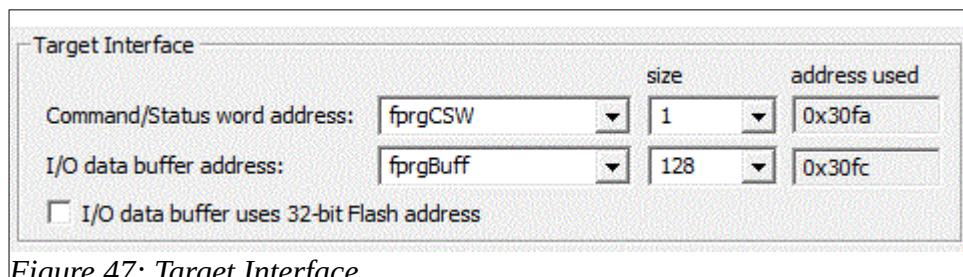
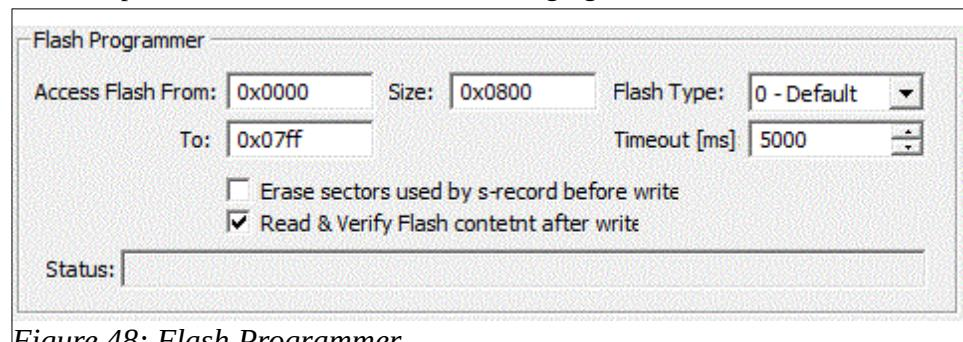

Figure 47: Target Interface
Figure 48: Flash Programmer
- Make sure the top is all set as in Figure 47 and in the lower part as in the figure 48.